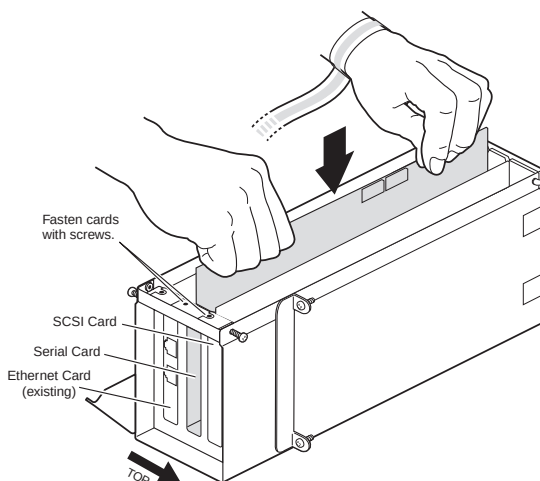
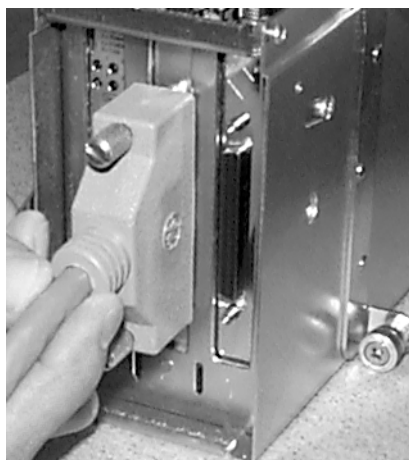

Figure 5 Installing a board into the PCI Module
Figure 6 Use the Serial Connector to properly center the Serial Card
- 8.) Connect the serial connector of the new serial octopus (2269874-2) to the serial card (see Figure 6). When the card is properly centered, finger tighten the thumbscrews of the connector first, and *then* (and only then) fasten the card in place with a screw (see Figure 5).
- Fasten the card in place with a screw (see Figure 5).